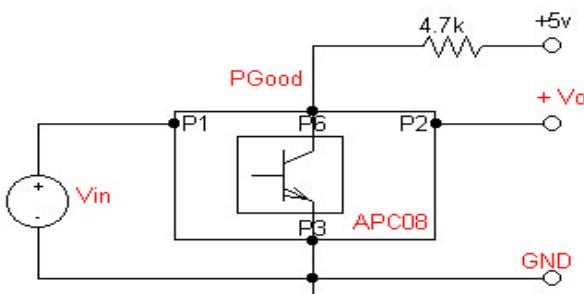

Figure 6. PGood setup.
- 7. See Figure 6 for PGood configuration
PG pin provides an output signal indicating the Vout is operational (TTL logic signal). It can sink current up to a max of 5mA and can have a maximum external pull-up voltage of 6V. Please see recommended setup shown on Figure 6.